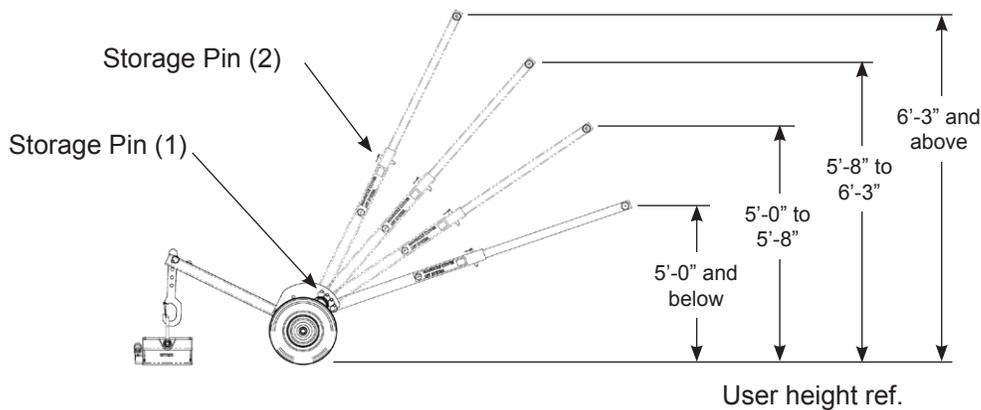

Figure 3
4. Reposition Storage Pin (1) to one of the four settings to optimize the handle position for the user's height. Refer to Figure 3.